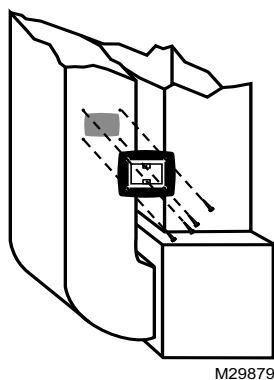

Fig. 15. Secure the base bracket to the duct.
6. Secure the base bracket to the duct using the four 1 in. (25 mm) mounting screws provided with the humidistat. (See Fig. 15.)